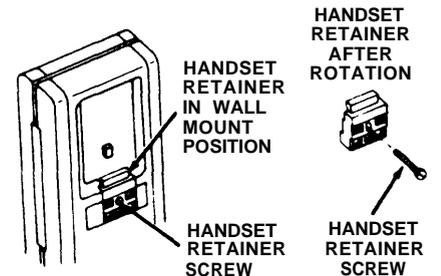

Figure 7
- Replace the handset retainer into upper housing. If properly inserted, a portion of the handset retainer should be projecting into the handset well of the upper housing (see Figure 7).